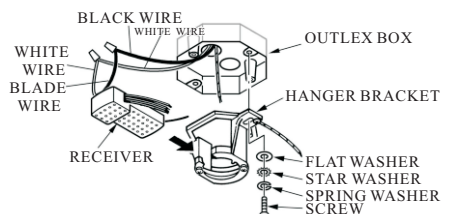

FIG.7
1. Securely attach the hanger bracket to the outlet box by washers and screws supplied. Connect white wire from ceiling to white wire from receiver with wire nut. Connect black wire from ceiling to black wire from receiver with wire nut. (See fig.7)